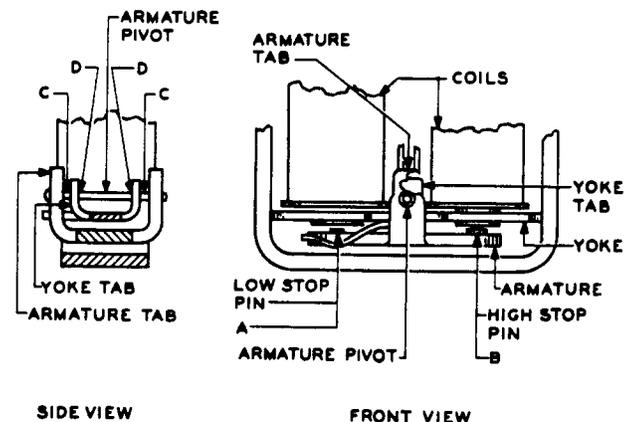

Fig. 1 - Points of Lubrication for Stop Pins and Armature Pivot of B1AL Ringer
- (1) Fig. 1(A) - One application to the end of the low stop pin.
- (2) Fig. 1(B) - One application to the end of the high stop pin.
- (1) Fig. 1(C) - One dip to the armature pivot between the armature and the yoke tabs (2 points).
- (2) Fig. 1(D) - One dip to the armature pivot at the inner surface of the yoke tabs (2 points).